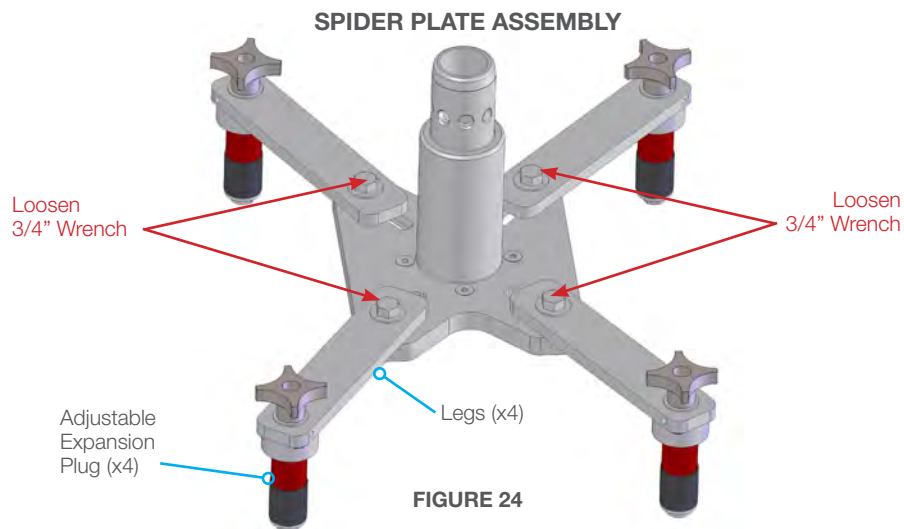

FIGURE 24
1. Loosen the four bolts on the legs of the Spider Plate Assembly with a 3/4" Ratcheting Open-End Box Wrench, so the legs are free to slide in the slots of the Hub Plate but do not come off. **(Figure 24)**
2. Loosen the Expansion Plugs (x4) on each leg with the adjustable knobs. **(Figure 24)**